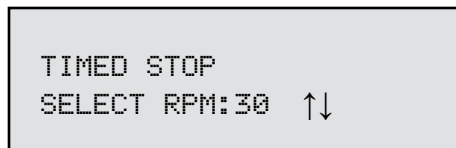

*Figure IV-17*
*Note:* The value for either minutes or seconds must be other than zero or you cannot advance to the RPM input screen (Figure IV-18). Pressing the OPTIONS/TAB or ENTER/AUTORANGE keys will cause the user to alternate between the minutes input screen (Figure IV-16) and the seconds input screen (Figure IV-17) until either minutes or seconds are anything but zero.